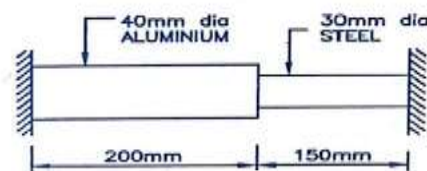

Figure 7
- Q.3 (a) An assembly made up from aluminum and steel bars as shown in Figure 7, is initially stress free at temperature 32°C. The assembly is heated to bring its temperature to 82°C. Find the stresses developed in each bar. The coefficients of thermal expansions are  $1.25 \times 10^{-5}$  &  $2.25 \times 10^{-5}/^\circ\text{C}$  for steel and aluminum respectively. Take  $E_S = 200 \text{ GPa}$  &  $E_A = 75 \text{ GPa}$ . [06]